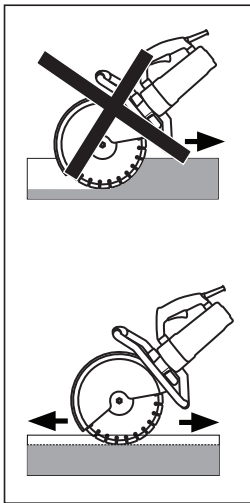

FIG. 17
- Gently feed the blade into the workpiece. Performance is best when cutting straight ahead along a pre-marked cutting line. Do not cut a depth greater than 50mm (2"). **(Fig. 17)**